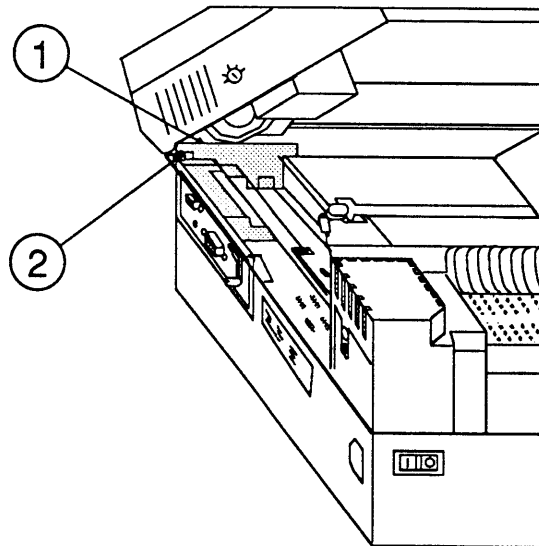

FIGURE 2-51
5. Remove the mounting connector plate cover (Figure 2-51, #1), if one is present, by removing the single screw holding it in place (Figure 2-51, #2).